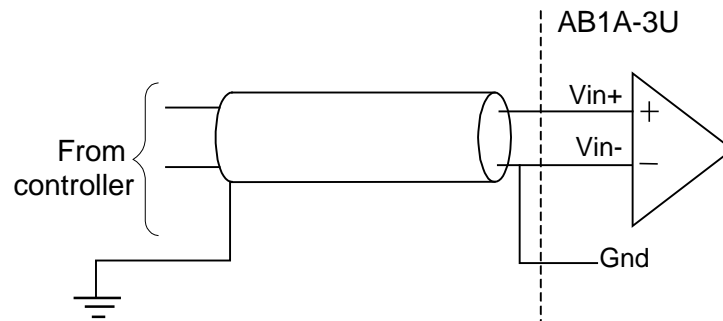

Figure 4: Non-Differential (single ended) Analog Input Connection.
- Single-Ended Connection (see Figure 4)